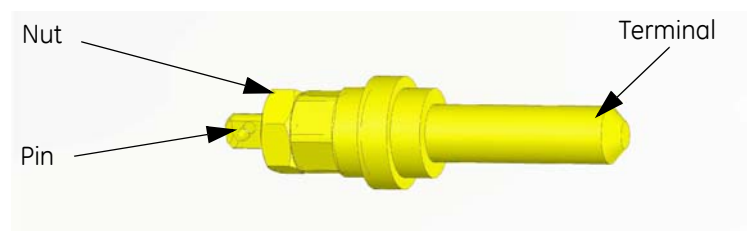

Figure 5-4 Pin Connector Detail
- 1 Extract the Retaining Ring (*item 23*, 9-4-03-30S3501).
- 2 Remove the outer Recessed Washer (*item 17*, 9-4-03-30S3501).
- 3 Unscrew and remove the terminal from the pin and nut, see *Figure 5-4*.